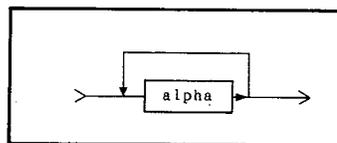

Figure 3-129. Alpha Header
- 1) **HR1 (Alpha Header)** Figure 3-129 shows the syntax diagram for HR1. An Alpha header is a sequence of one or more alpha characters (A ~ Z). This header is used for Select Commands and String data type program instructions.